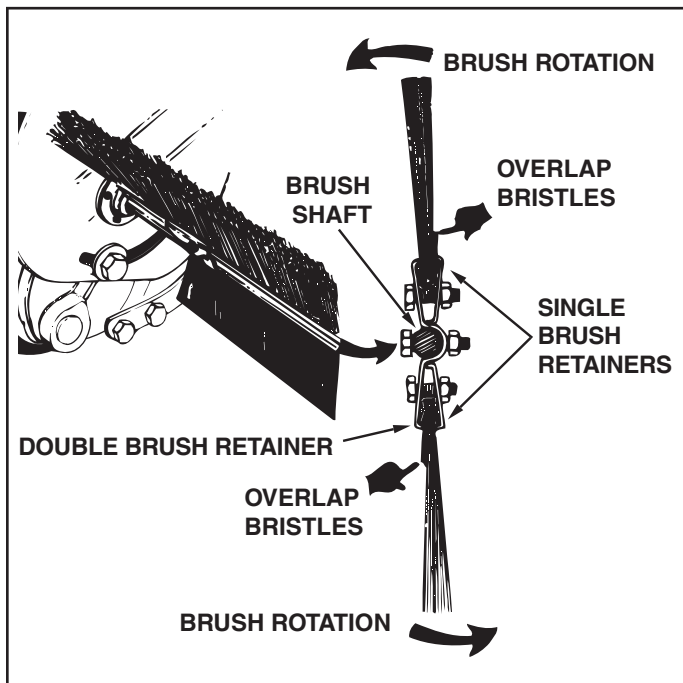

FIGURE 25
- Loosen the hex bolts and lock nuts on two single brush retainers which clamp one brush to the double brush retainers. **Do Not loosen** or remove the bolts which fasten the double brush retainers to the brush shaft. See figure 25.
- Slide the brush out of the retainers, noting on which side of the brush the bristles overlap. See figure 25.
- Install new brush, making sure the bristles overlap on the same side of the brush as before. See figure 25.